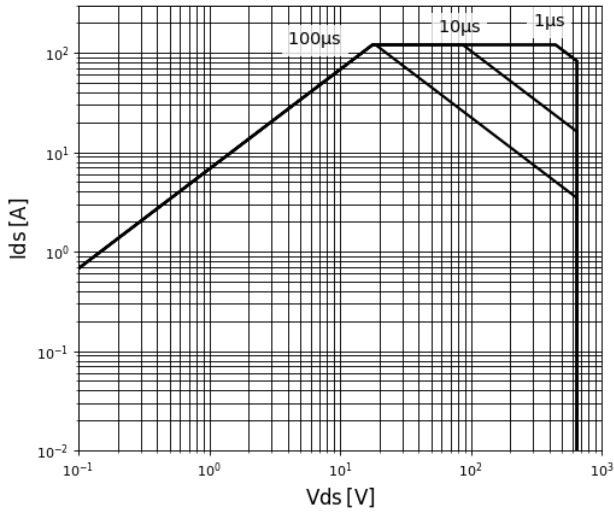

Figure 13. Safe Operating Area  $T_c=25^\circ\text{C}$
**Simplified Half-bridge Schematic ( See also on Figure 13 )**